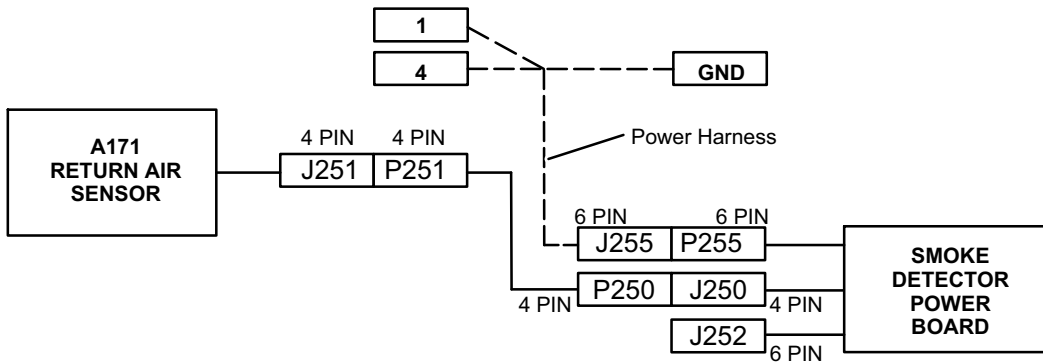
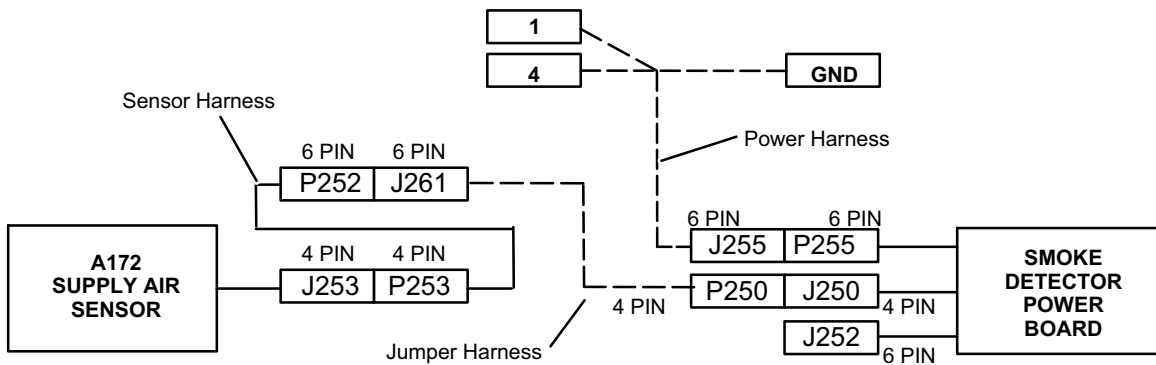
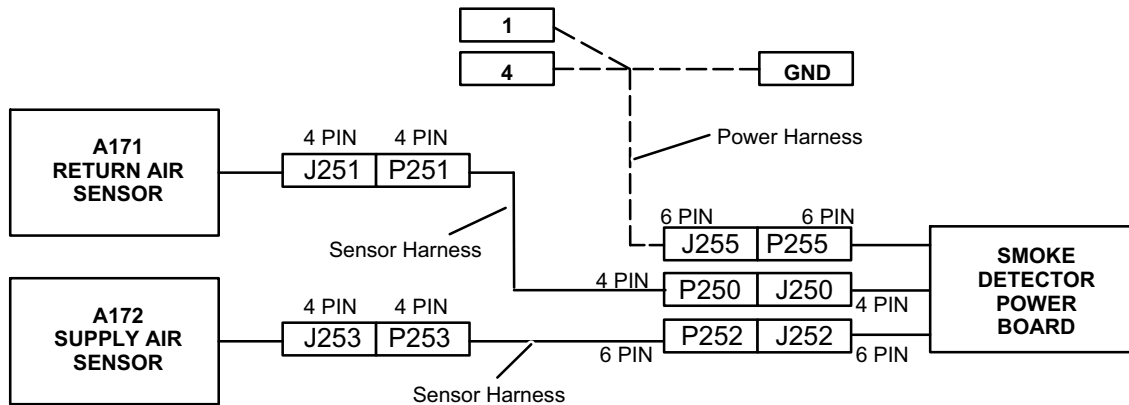

FIGURE 5
FIGURE 6
FIGURE 7
- 9 - Make jack/plug connections as shown in figure 5 when installing return air smoke detector only, figure 6 when installing supply air smoke detector only, and figure 7 when installing both supply and return air smoke detectors.